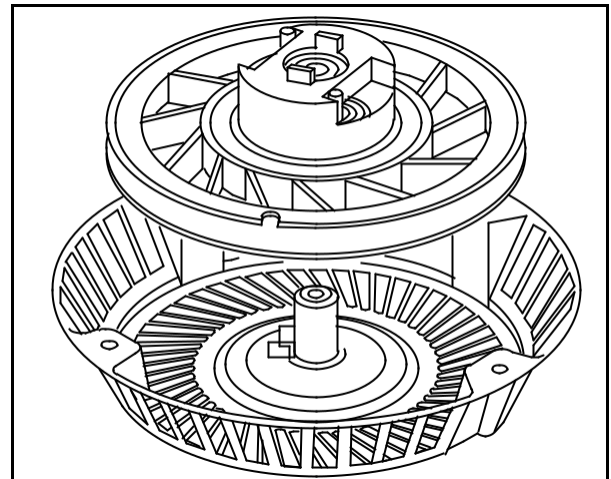

Fig. 57
5. Carefully lift out pulley with spring, **Fig. 57**.